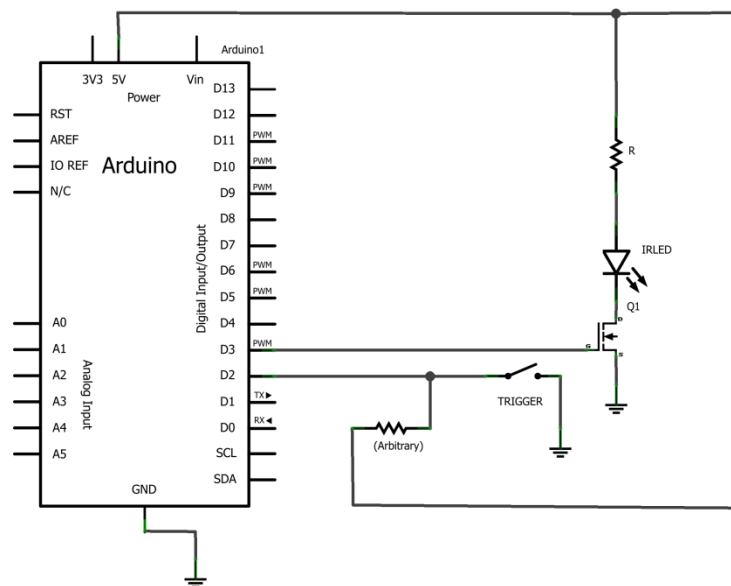

Figure 3 – An Arduino directly driving a MOSFET in series with an IR LED and current limiting resistor.
Consider the circuit shown in Figure 3. The transistor is a STQ1NK80ZR MOSFET. To transmit TV codes over the largest possible distance, we must guarantee that the maximum possible current flows through the IR LED. Assuming the IR LED acts as an ideal diode with the ON voltage found in 4b and that  $R = 0$ , what is the current through the LED? (Hint: use the MOSFET datasheet)
5. Breadboard the circuit shown in Figure 3 with  $R=0\ \Omega$ . **Measure the current going through the LED. How does it compare to the target current from the pre-lab? If it is significantly different, give a possible explanation.**